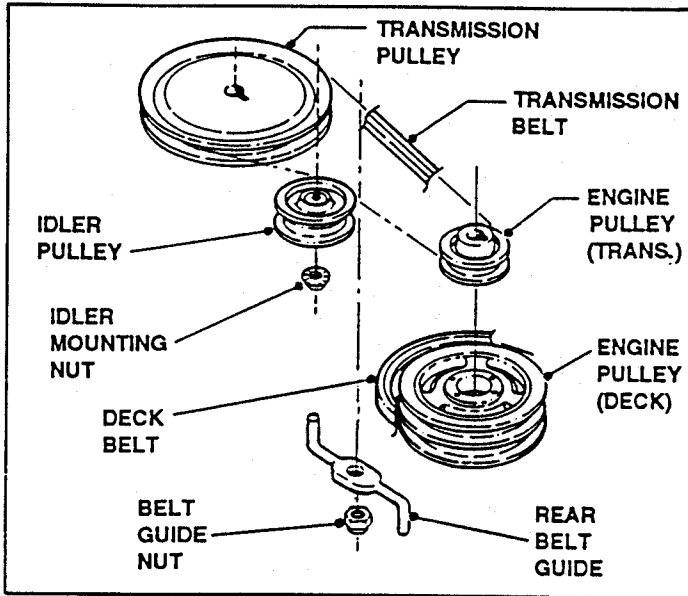

FIGURE 46
3. Remove Transmission Belt. See Figure 46.
4. Tighten nut on Belt Guide at rear of Engine Pulley. See Figures 46 & 47.